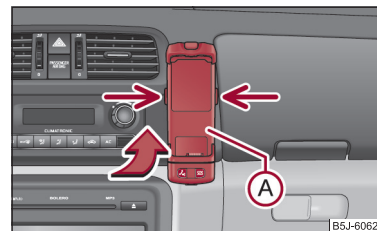

Fig. 105 Universal preparation for the phone
- First of all push the adapter (A) in the direction of arrow ⇒ fig. 105 up to the stop into the mount. Press the adapter slightly downwards, until it locks securely into position.
- Insert the mobile phone into the adapter (A) (as specified in manufacturer's instructions).
- Press simultaneously the side locks of the mount and remove the mobile phone and adapter ⇒ fig. 105.